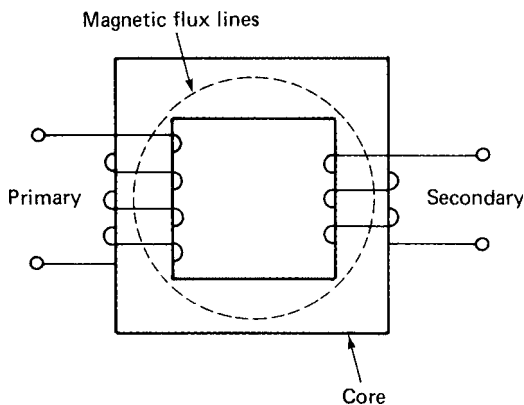

Figure 8-13 Closed-core transformer.
2. *Closed-core*: This type is more efficient than the open-core type. Figure 8-13 shows that the flux path is contained within the core. This increases the strength of the magnetic field. The transfer of energy is improved.